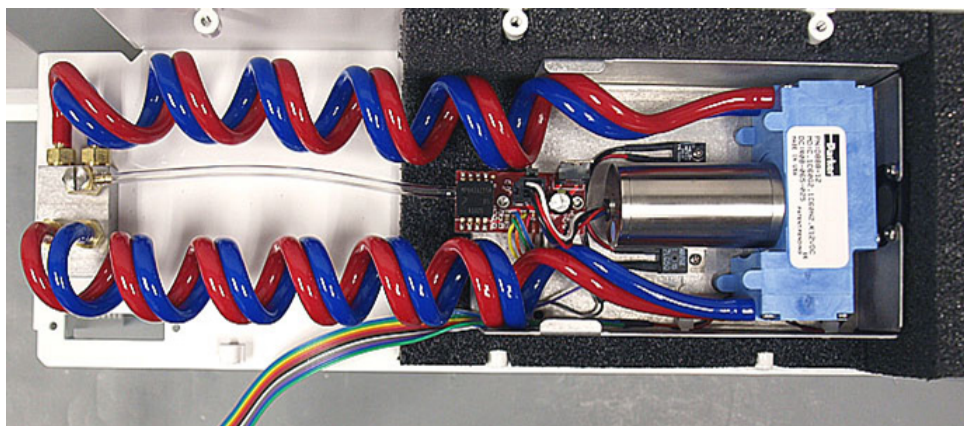

FIGURE J-3. AP200 pump
3. Remove the cover to expose the pump (FIGURE J-3).
4. Place the pump assembly back into the foam of the pump enclosure (FIGURE J-3).